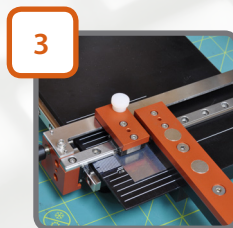

Figure 3: Sample ready for scribing.
- **For crystalline material use a short scribe.** Set the scribe stop with the leading edge of the sample touching the scribe tip as shown in Fig.3 to get desired length.